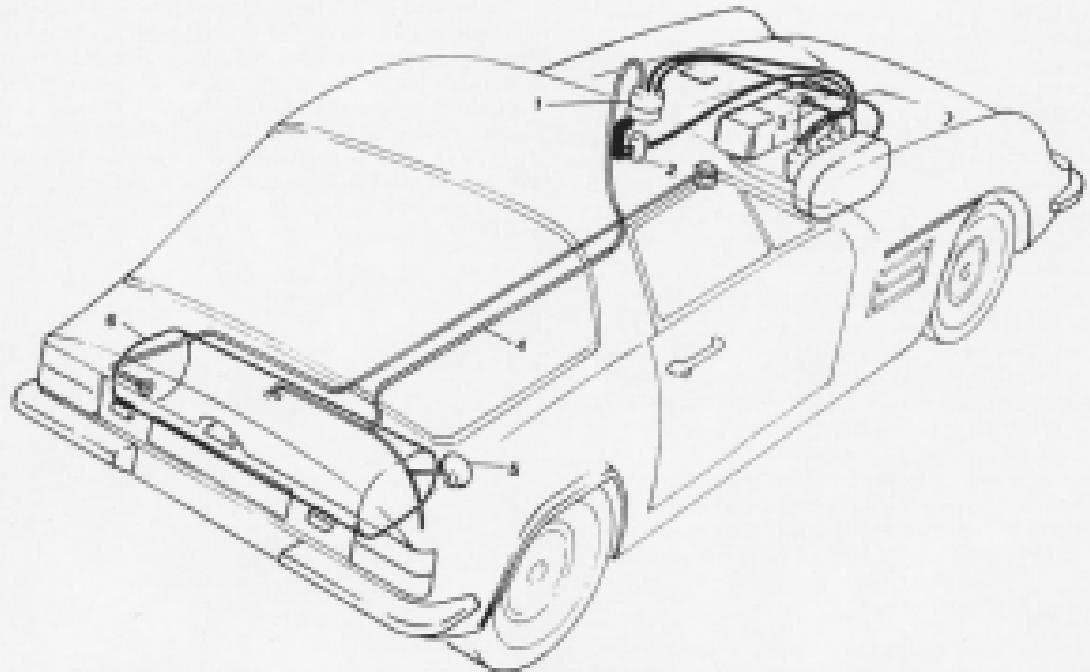

Fig. 12
2. The twin carburetors are Stromberg 175 CDSE (V) which are designed to be highly efficient and sensitive to varying conditions. The following features are incorporated:—
- (b) The carbon canister (Fig. 12) is vented to atmosphere via an anti-run-on valve. The canister is purged and prevented from vapour build-up by piping to the constant depression area of each carburetor. The crankcase breather is also linked to the above piping system via the rocker cover.